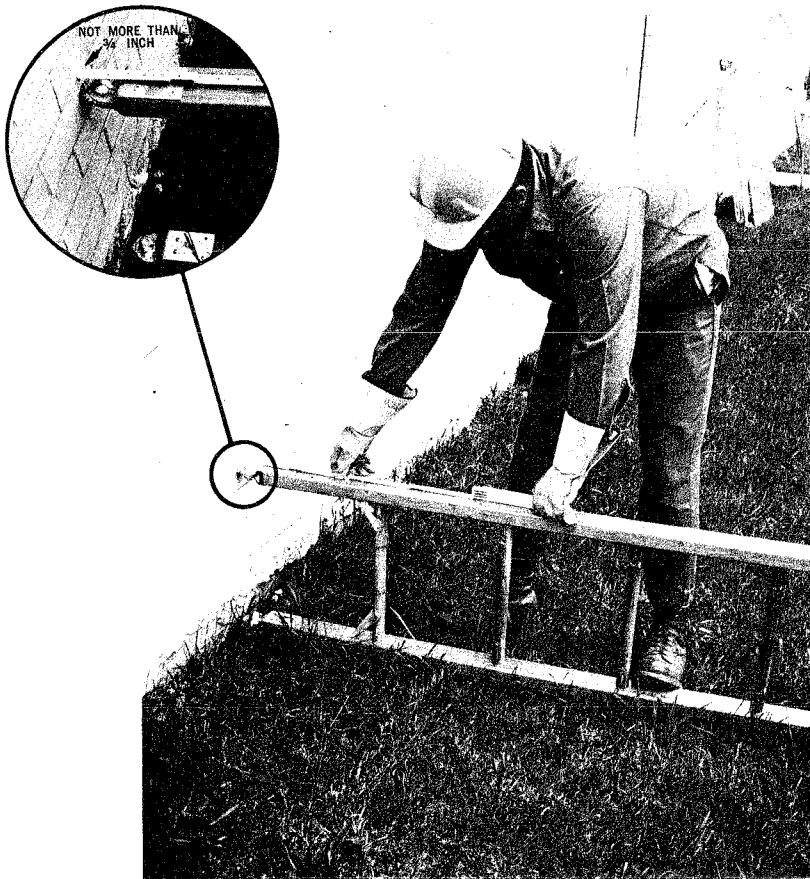

Fig. 39 — Measuring Longitudinal Play in Side Rails
11.07 Check for excessive longitudinal play in side rails (more than $\frac{3}{4}$ -inch or the width of the thumb). This is due to looseness of the rungs and rung braces and may be measured as shown in Fig. 39.